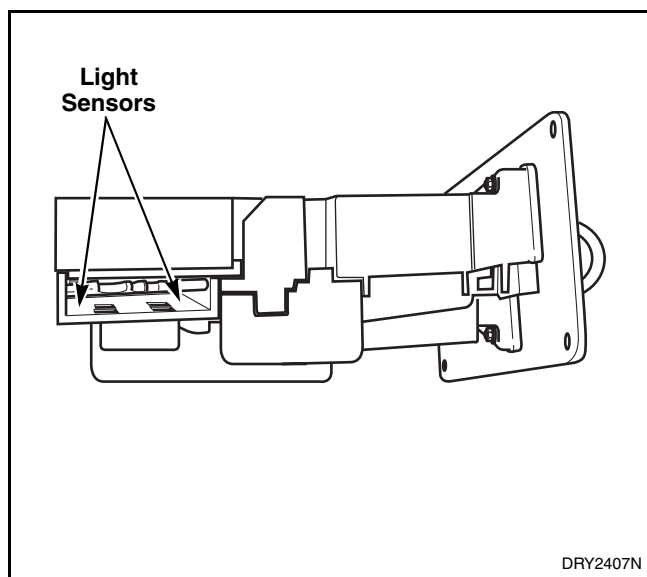

Figure 32
- f. Clean light sensors with a soft brush or air spray duster. Refer to *Figure 32*.